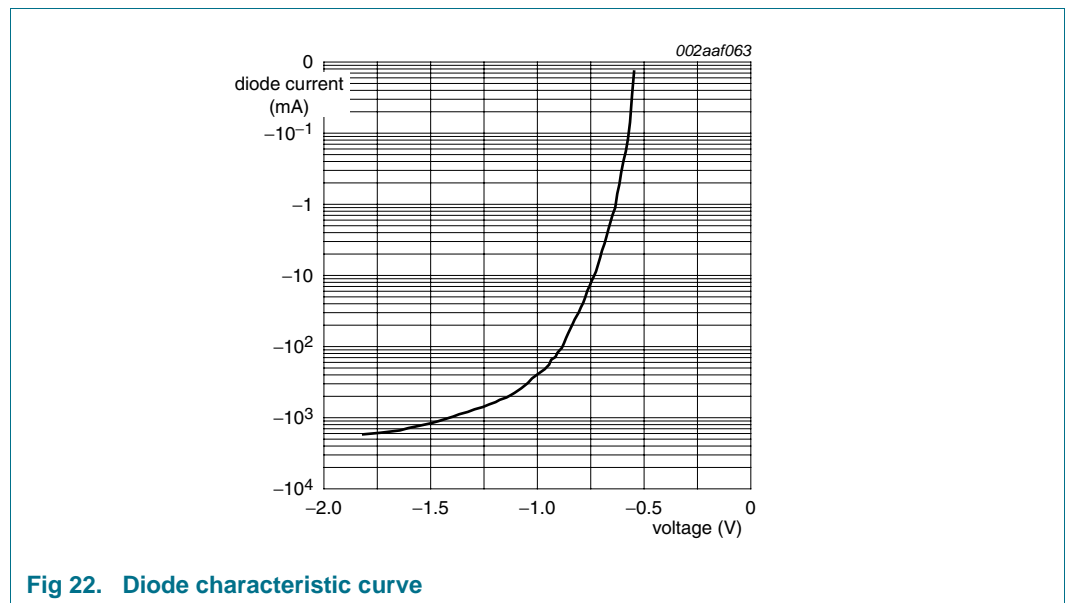

Fig 22. Diode characteristic curve
Figure 22 shows the measured characteristic for one of those diodes inside PCA9600. The plot was made using a curve tracer that applies 50 Hz mains voltage via a series resistor, so the pulse durations are long duration (several milliseconds) and are reaching peaks of over 2 A when more than  $-1.5\text{ V}$  is applied. The IC becomes very hot during this
For the PCA9600, in specific applications, there will always be transient overshoot and ringing on the wiring that can cause these diodes to conduct. Therefore we designed the IC to withstand those transients and as a part of the qualification procedure we made tests, using DC currents to more than twice the normal bus sink currents, to be sure that the IC was not affected by those currents. For example, the TX/TY and RX/RX pins were tested to at least -80 mA which, from Figure 22, would be more than -0.8 V. The correct functioning of the PCA9600 is not affected even by those large currents. The Absolute Maximum (DC) ratings are not intended to apply to transients but to steady state conditions. This explains why you will never see any problems in practice even if, during transients, more than -0.3 V is applied to the bus interface pins of PCA9600.
Figure 22 "Diode characteristic curve" also explains how the general Absolute Maximum DC specification was selected. The current at 25 °C is near zero at -0.55 V. The PCA9600 is allowed to operate with +125 °C junction and that would cause this diode voltage to decrease by  $100 \times 2 \text{ mV} = 200 \text{ mV}$ . So for zero current we need to specify -0.35 V and we publish -0.3 V just to have some extra margin.